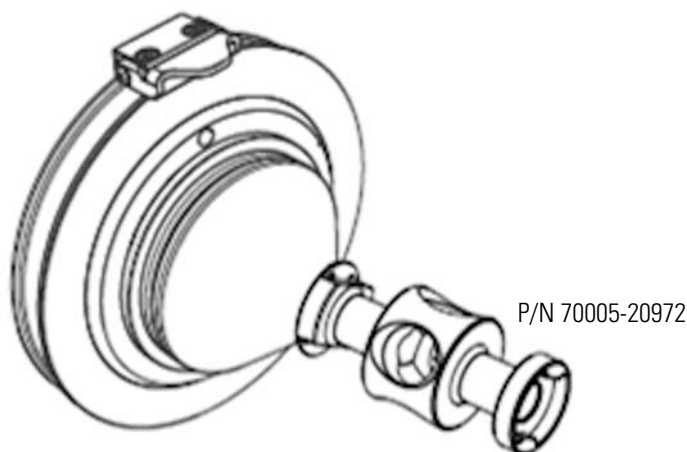

Figure 8-13. Ion transfer tube removal tool
5. Rotate the ion transfer tube with the tool (see Figure 8-13) 1/4-turn counterclockwise. Then slowly pull the tube out of the API source interface.